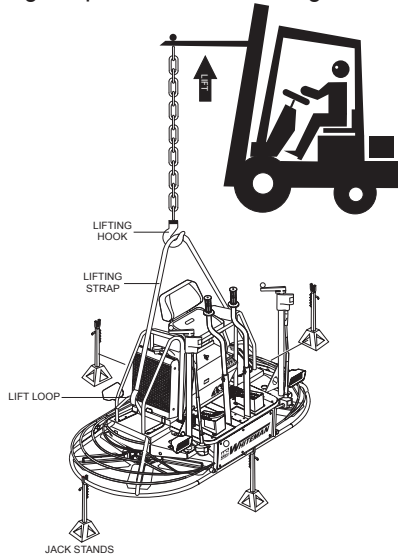

Figure 2. Lifting the Trowel
1. Attach one end of a lifting strap or chain around the lift loops on each side of the trowel. Attach the other end of the lifting strap or chain to the lifting device (Figure 2).